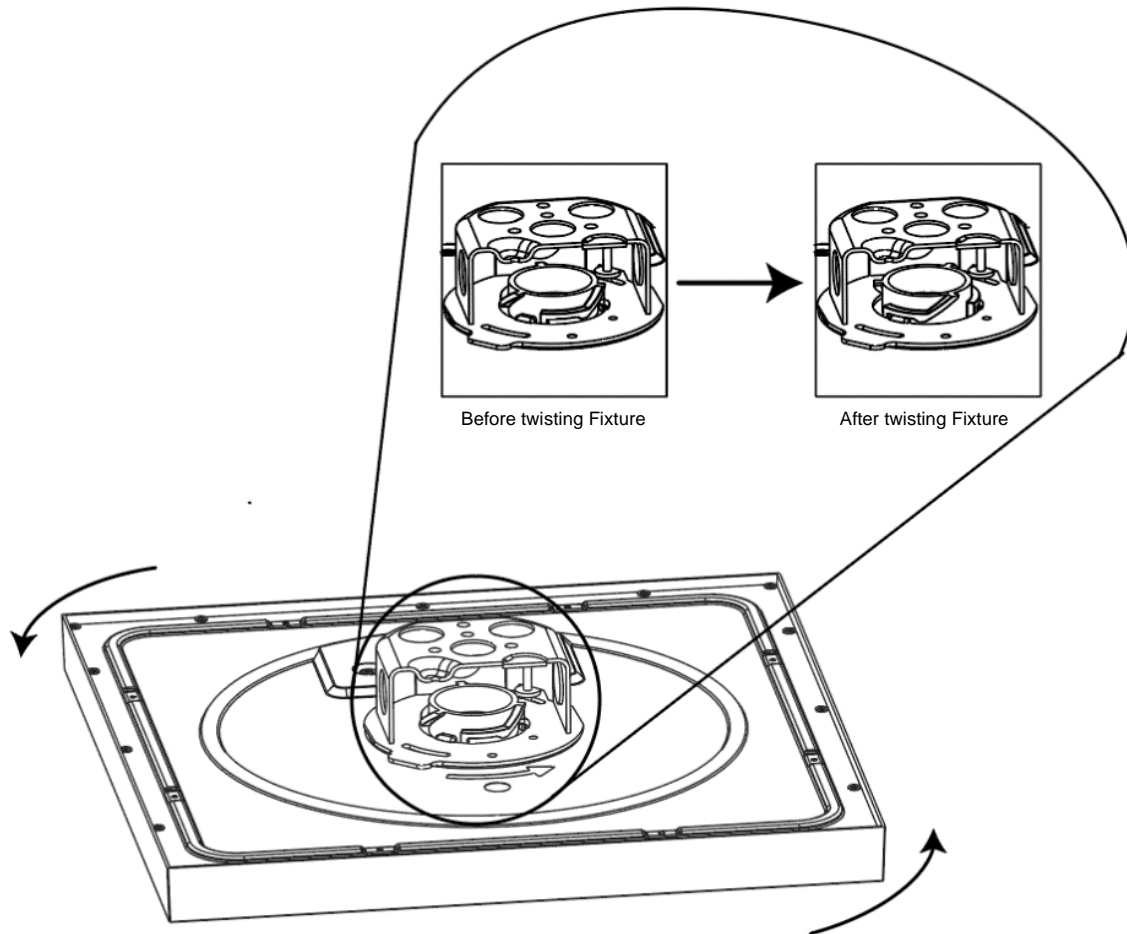

Figure 8
- Secure the Fixture Assembly to the Mounting Bracket by **twisting the fixture CLOCKWISE** while **gently pushing the fixture upwards into the junction box**, shown in *Figure 8*. The installer should feel a slight “bump” while screwing on the fixture to confirm that the fixture has locked into place. The fixture must be rotated clockwise 90 degrees from Arrow alignment to fully install. If aligning with a Square Slimform, the installer will have a little extra tolerance to adjust the alignment of the fixture after feeling the “bump” secure the fixture in place.